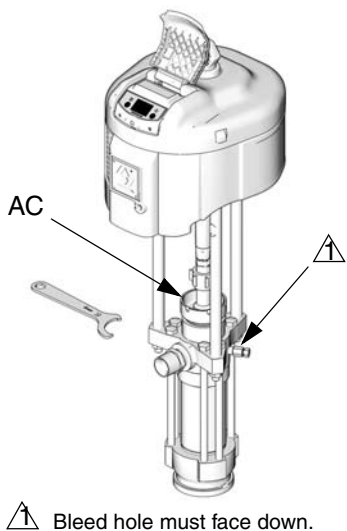

FIG. 17: Bleeder Valve and Wet-Cup
See FIG. 17. Check the wet-cup (AC) daily. Keep the wet-cup 1/3 filled with Graco Throat Seal Liquid (TSL) or compatible solvent.